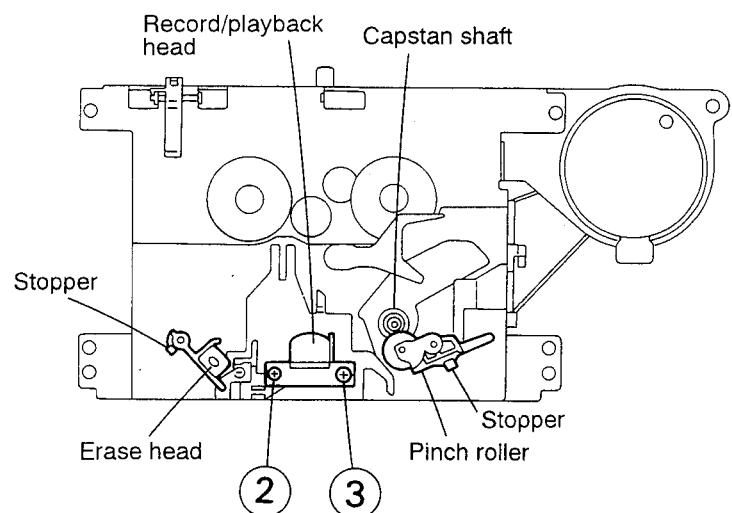

Fig. 2 - 28
■ Flywheel assembly (Fig. 2 - 30)